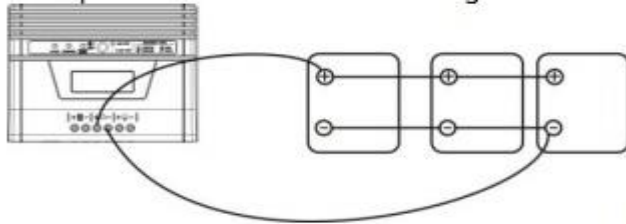

Fig. 6
- 2) **Multiple batteries in parallel connection (Refer to Fig. 6):** Each battery's voltage must be equal to the Nominal DC Voltage of the unit.